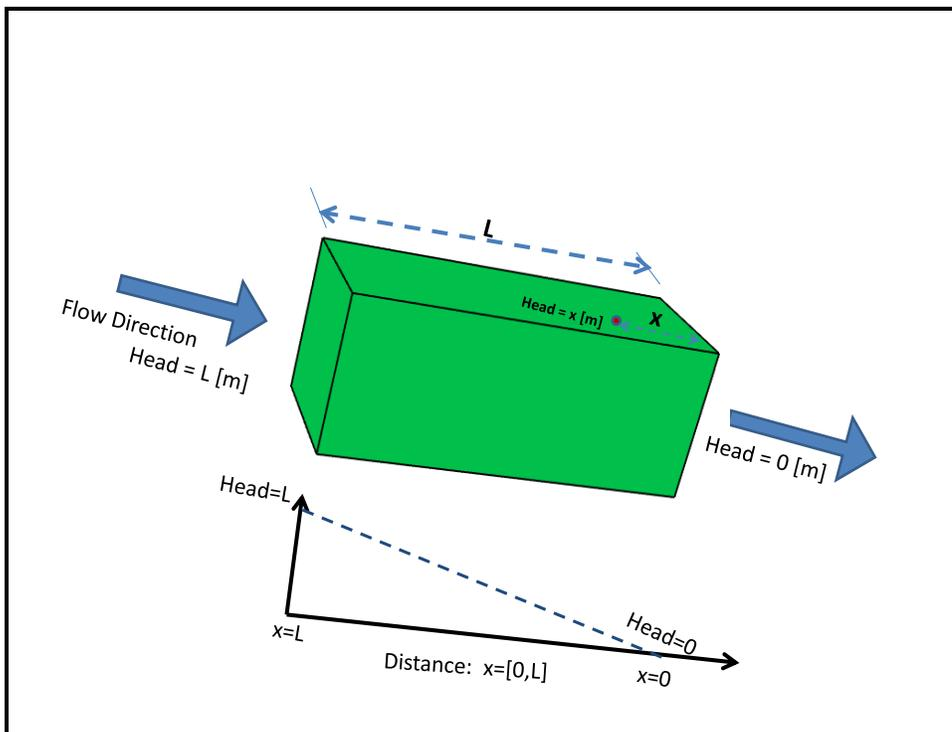

Figure 1: Linear Pressure Boundary
- **Linear Pressure** - pressure along the sides will vary linearly from the higher pressure at one end of the cell to the lower pressure at the other end of the cell (Figure 1). The “Linear Pressure” boundary condition will permit fluid to exit through the sides of the cell.